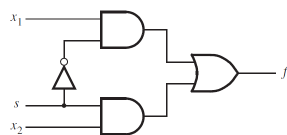

Figure 2.42. Behavioral specification of the circuit in Figure 2.36.
- If a signal is assigned a value using procedural statements, then Verilog syntax requires that it be declared as a *variable*; this is accomplished by using the keyword **reg** in Figure 2.42.